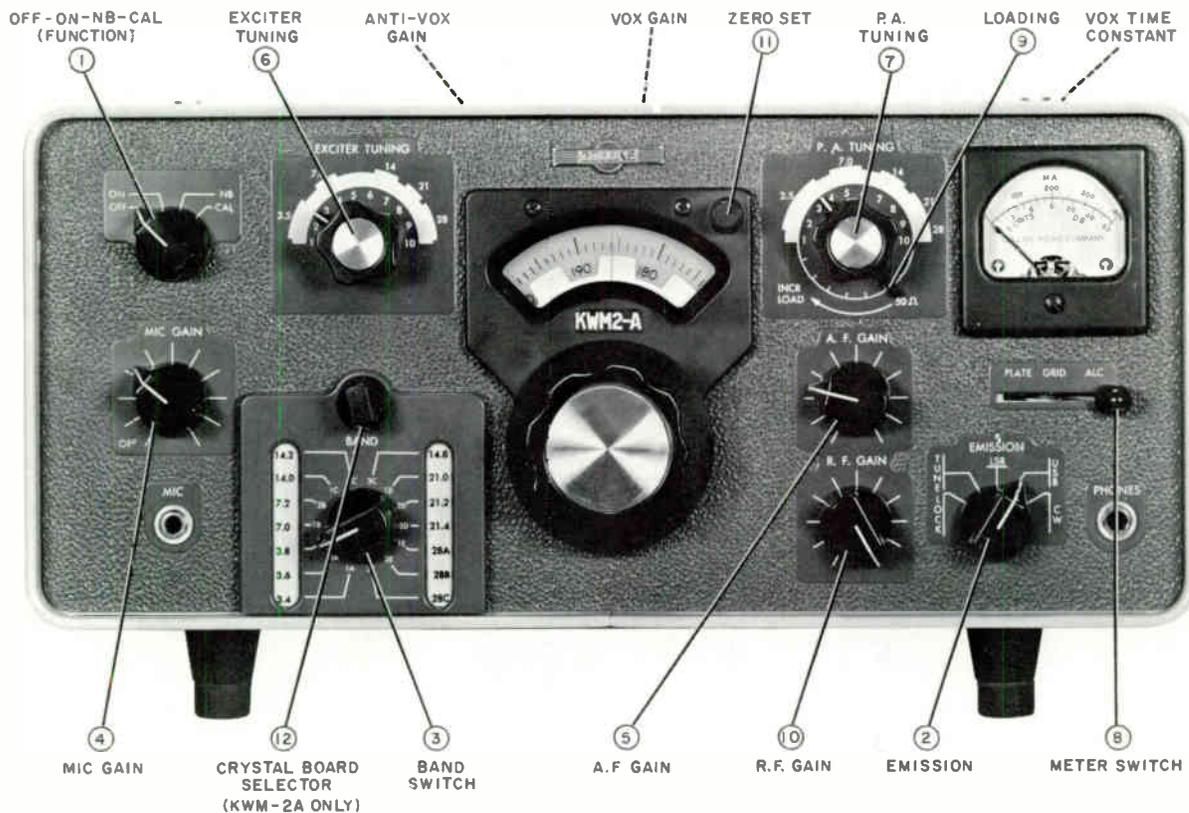

Figure 2-1. Operating Controls
1.3 Initial Checks. (Refer to figure 2-1.)
- a. Refer to figure 2-1. Set function switch (1) to ON. This is the switch labeled OFF-ON-NB-CAL. See table 2-1.
- b. Set EMISSION switch (2) to desired sideband (USB or LSB position). Set BAND switch (3) to desired band. If KWM-2A, set crystal board selector (12) so desired set of bands appears in window.
- c. Set the MIC GAIN control (4) full counterclockwise. Set R.F. GAIN control (10) full clockwise.
- f. Adjust the A.F. GAIN control (5) until some receiver noise is heard in speaker.
- g. Adjust the EXCITER TUNING control (6) to white portion of scale indicating the desired band. Rock this control slightly to peak the receiver noise output. The transceiver is now ready to receive and the selected 200-kc band may be tuned with the tuning control. Dial frequency can be determined by adding the dial reading to the BAND switch setting.